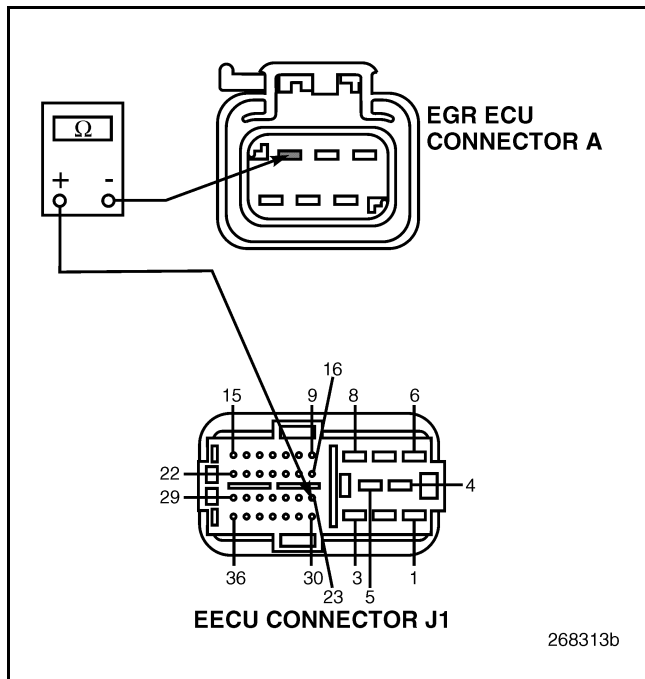

Figure 600
4. Measure the resistance between EECU connector J1 pin 23 and EGR ECU connector A pin 3 (see Figure 600).